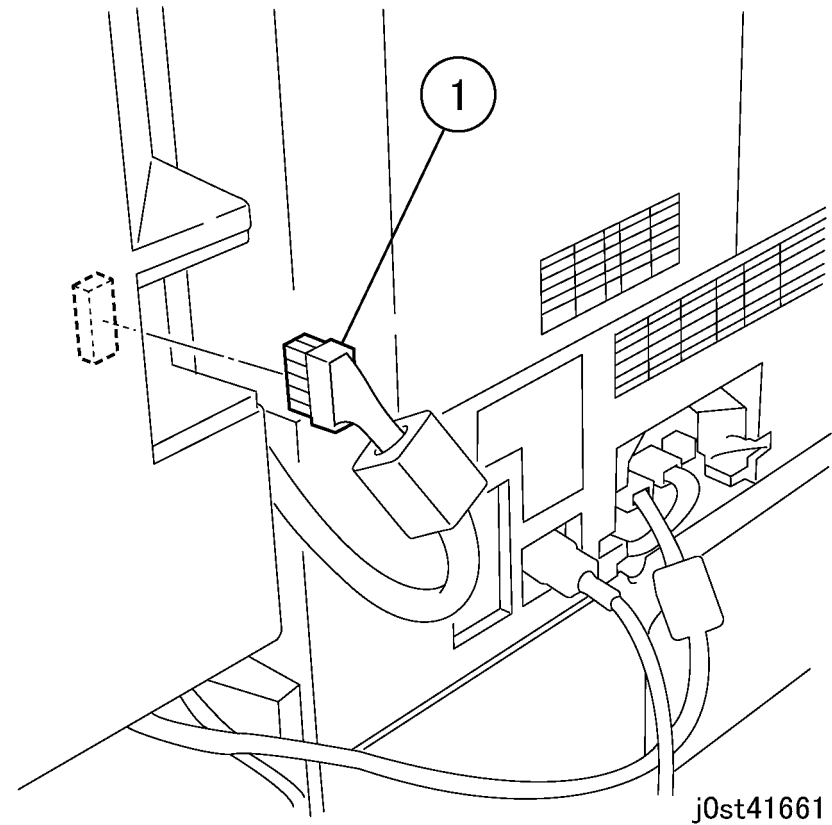

Figure 2 Removing the connector
2. Remove the connector. (Figure 2)